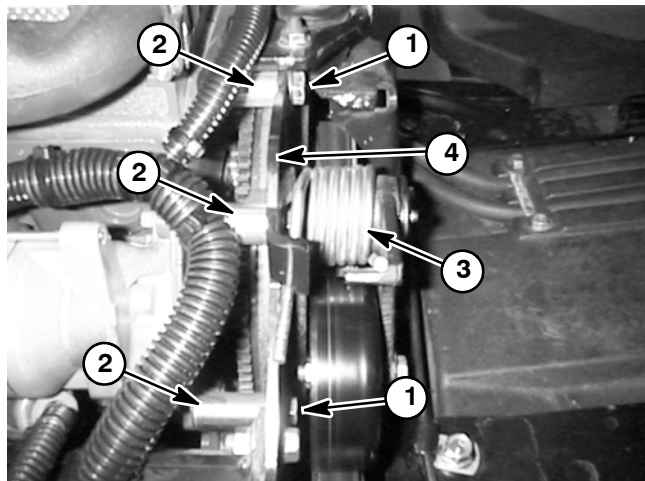

Figure 25
15. Separate hydrostat and pump mount plate from the engine as follows (Figs. 25 and 26):
2. Install hydrostat and pump mount plate to the engine as follows (Figs. 25 and 26):